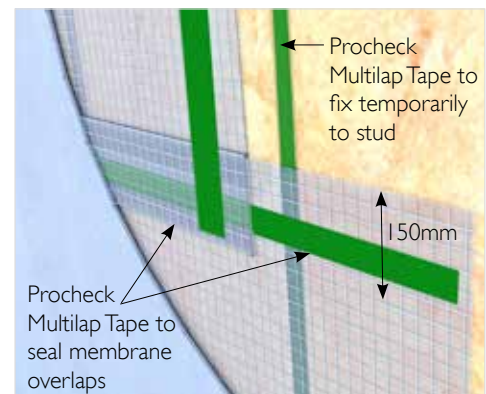

Fig.2: Lap joint detail with Procheck Multilap Tape
2. Install the VCL horizontally or vertically in an even manner ensuring the membrane is flat against the substrate and without wrinkles. If installing horizontally, work from bottom to top to ensure overlaps are shingled (Fig.2).
3. Vertical and horizontal overlaps should be min. 150mm. Seal between overlaps with Multilap Tape (Fig.2). Note: For membranes with integrated tape, see Figs.5&7.